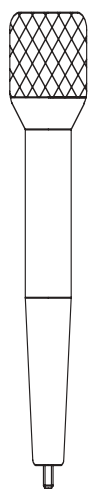

Fig. 2
- 7) Using the piston rod removal tool from the tool kit (see Fig. 2), screw in the tool in the end of the piston rod (A) and pull out the rod / guide assembly.
- 8) Remove the tool from the piston rod (A). Remove the guide (D) from the piston rod, by pulling the guide upwards.
- 9) Unscrew the charging screw (H) and remove it together with the charging ring (J).
- 10) Save the piston rod (A) and the cylinder tube (E).
- 22) Fit the lock ring (C) into the lock ring groove by pushing one of the ends into the groove and then press or hit the other end until it snaps into the groove. You can hear a clicking sound when it falls into position.
- 23) Screw in the special tool (see. fig 2) in the piston rod top and pull up the piston rod and guide.